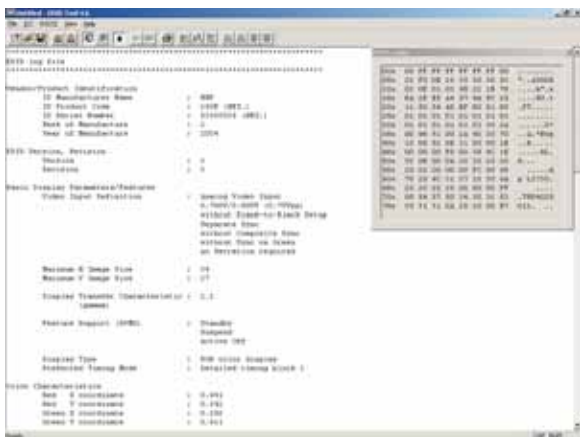

Fig.17
4. Click icon (Read EDID function) to read DDC EDID data from monitor. The EDID codes will display on screen as shown in Fig. 17.